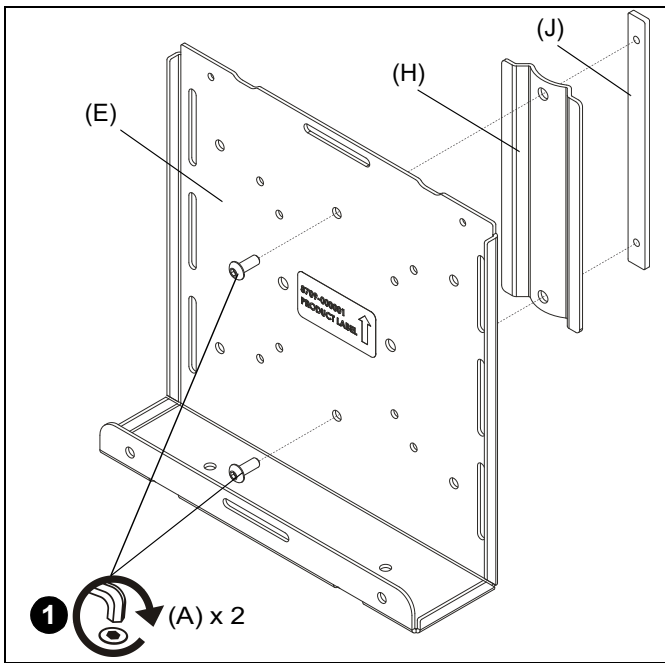

Figure 1
1. Loosely attach thin client bracket (E) to column brace (H) and column guide (J) using two #10-24 x 1/2" button head cap screws (A). (See Figure 1)